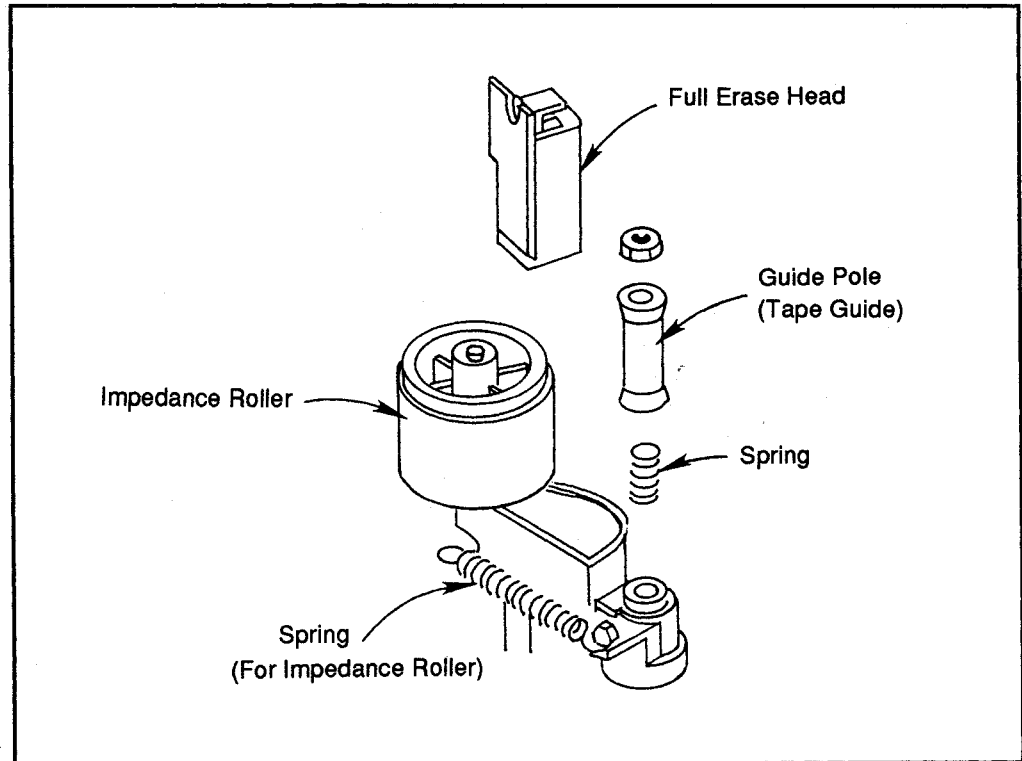

Figure 46: Guide pole and full erase head
The guide pole and full erase (FE) head are located on the same assembly and shown in Figure 46. To remove the guide pole, remove the guide pole nut. Adjust the height of the guide pole after installing the guide pole as described in the guide pole alignment section.